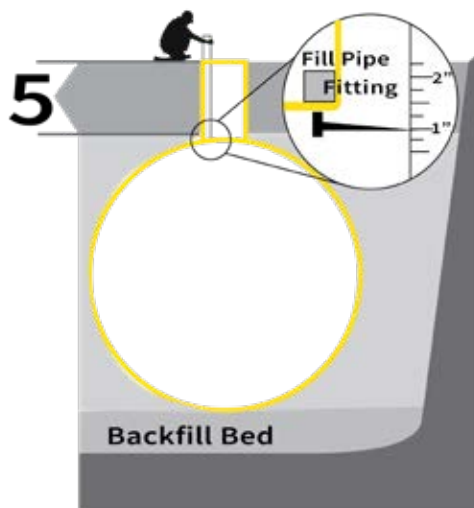

Figure 15: Fifth Vertical Diameter Measurement
- ✓ The inner diameter deflection is calculated using the “Fourth Vertical Diameter Measurement” and “Fifth Vertical Diameter Measurement” Refer to Figure 15.